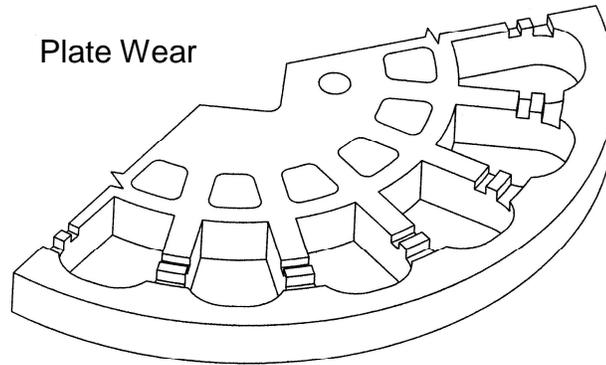

FIGURE 15
3. Regularly check the condition of the wear pad and the wear plate for these grooves. As they get deeper, these grooves will greatly increase the rate of wear and reduce the efficiency of the machine, Figure 15.